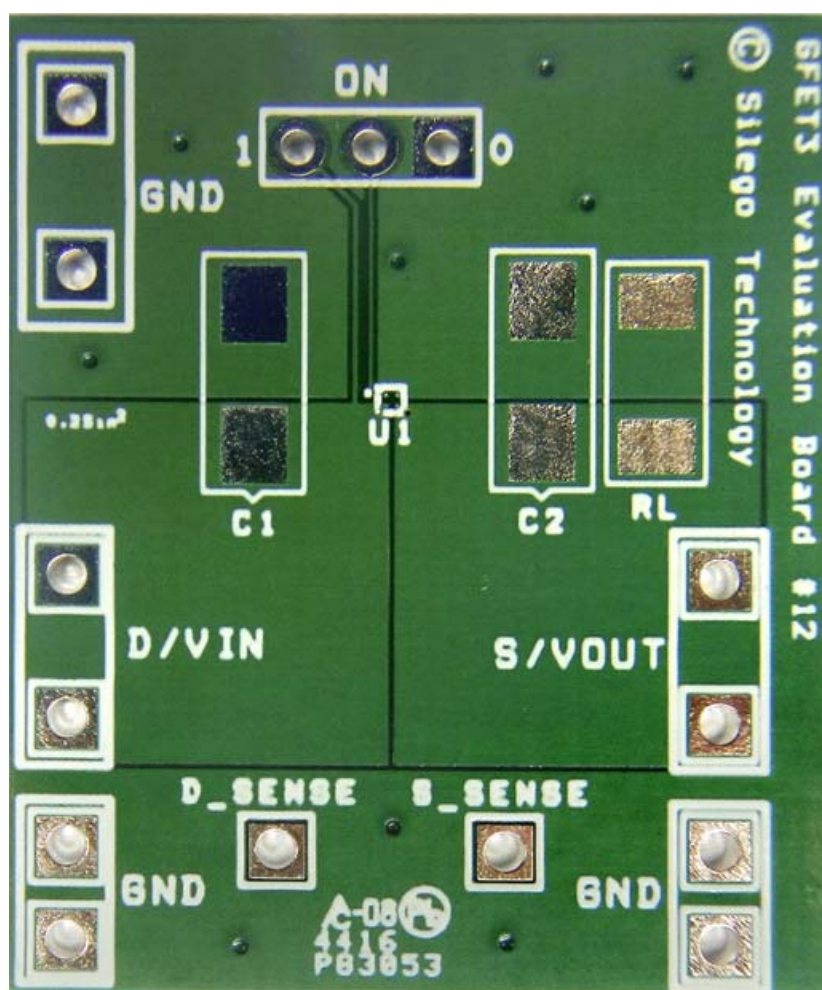

Figure 7. SLG59M1736C Evaluation Board
1. Since the VIN and VOUT pins dissipate most of the heat generated during high-load current operation, it is highly recommended to make power traces as short, direct, and wide as possible. A good practice is to make power traces with absolute minimum widths of 15 mils (0.381 mm) per Ampere. A representative layout, shown in Figure 7, illustrates proper techniques for heat to transfer as efficiently as possible out of the device;
A GFET3 Evaluation Board for SLG59M1736C is designed according to the statements above and is illustrated on Figure 7. Please note that evaluation board has D\_Sense and S\_Sense pads. They cannot carry high currents and dedicated only for RDSON evaluation.